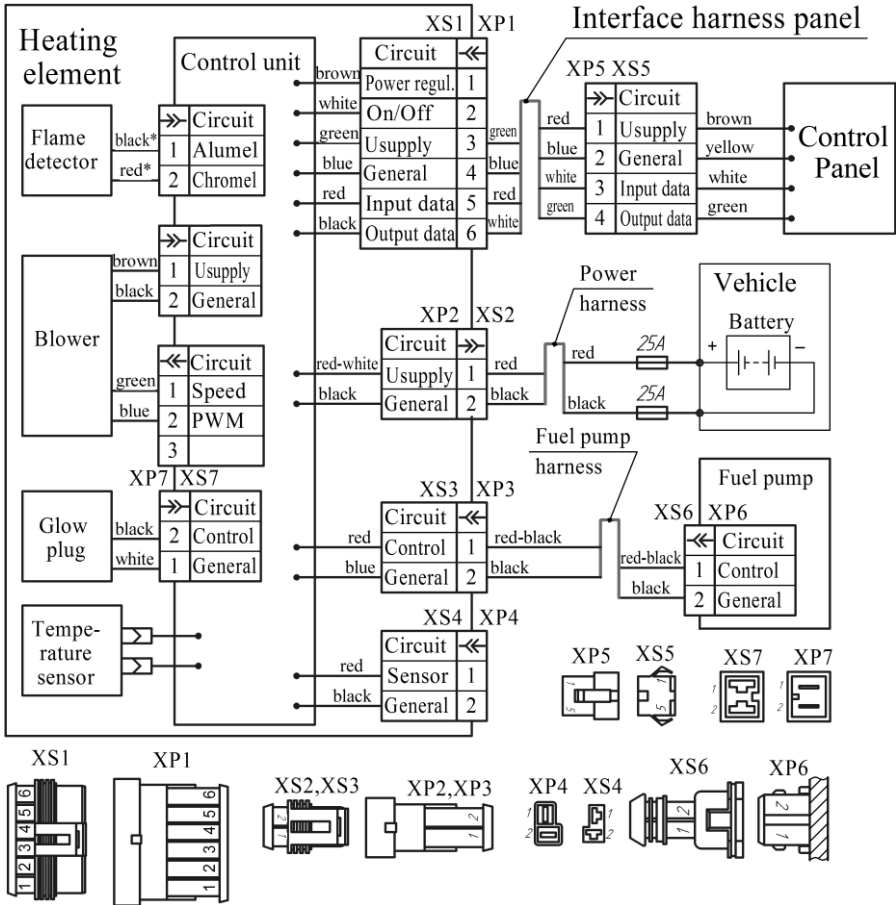

Figure 4.1- Wiring Diagram
The fuel and electric power supply is provided by the vehicle. See Figure 4.1 for the heater wiring diagram.
Heater wire harnesses shall be installed in compliance with the heater wiring system as shown in Figure 4.1. During installing, ensure the harness is protected from overheating, kinking, and pinching. Secure the harness with cable nylon zip ties.
- 4) disconnect blocks XP2 and XS2 of the power supply harness connector (fig 4.1) for 1-2 min and then connect them.